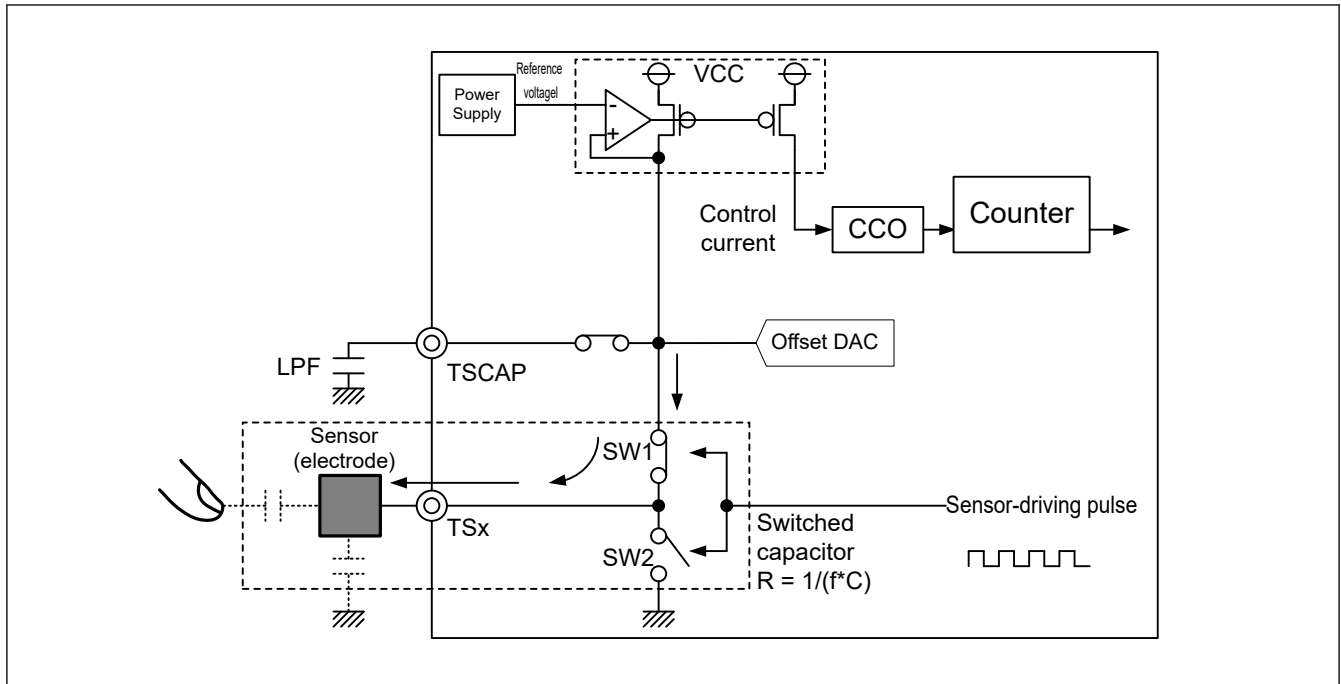
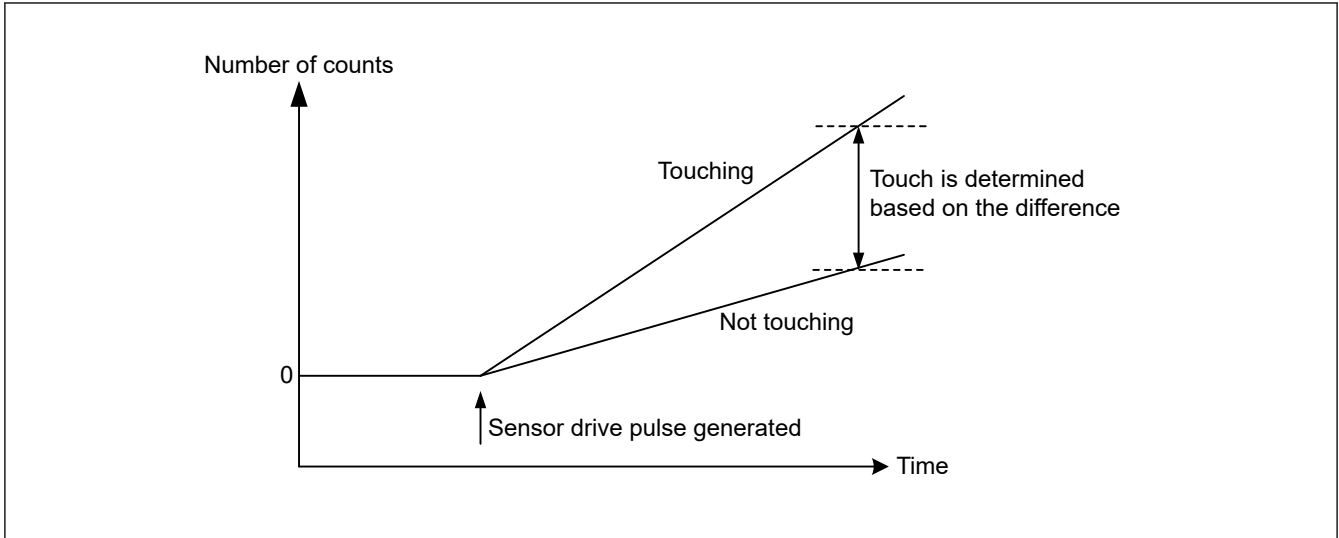

Figure 32.5 Self-capacitance charging operation
Figure 32.7 Change in measured value when finger is touching and not touching
Figure 32.5 to Figure 32.7 describe the electrostatic capacitance measurement operation principles of the CTSU current frequency conversion. The operation is as follows:
1. The electrostatic capacitance of the electrode is charged by turning SW1 on and SW2 off (Figure 32.5).
The current flows to a switched capacitor occur by switching the charging (step 1.) and discharging (step 2.) at early timing. At this time, if a human body comes into close proximity, the electrostatic capacitance changes, which changes the flowing current. A clock is generated by supplying the control current, which is proportional to the amount of current flowing to the switched capacitor, to the CCO from the TSCAP power supply (LDO). The software uses the values read from the counter to determine contact with a finger as shown in Figure 32.7.